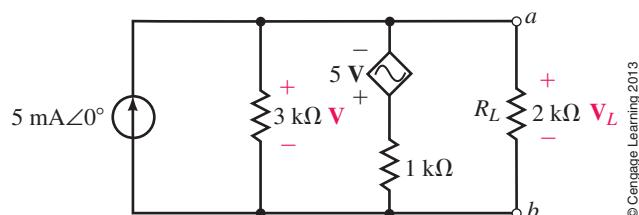

FIGURE 20-77
16. Find \mathbf{V}_L in the circuit of Figure 20-77.
40. Find the Thévenin equivalent circuit external to the load impedance of Figure 20-77.